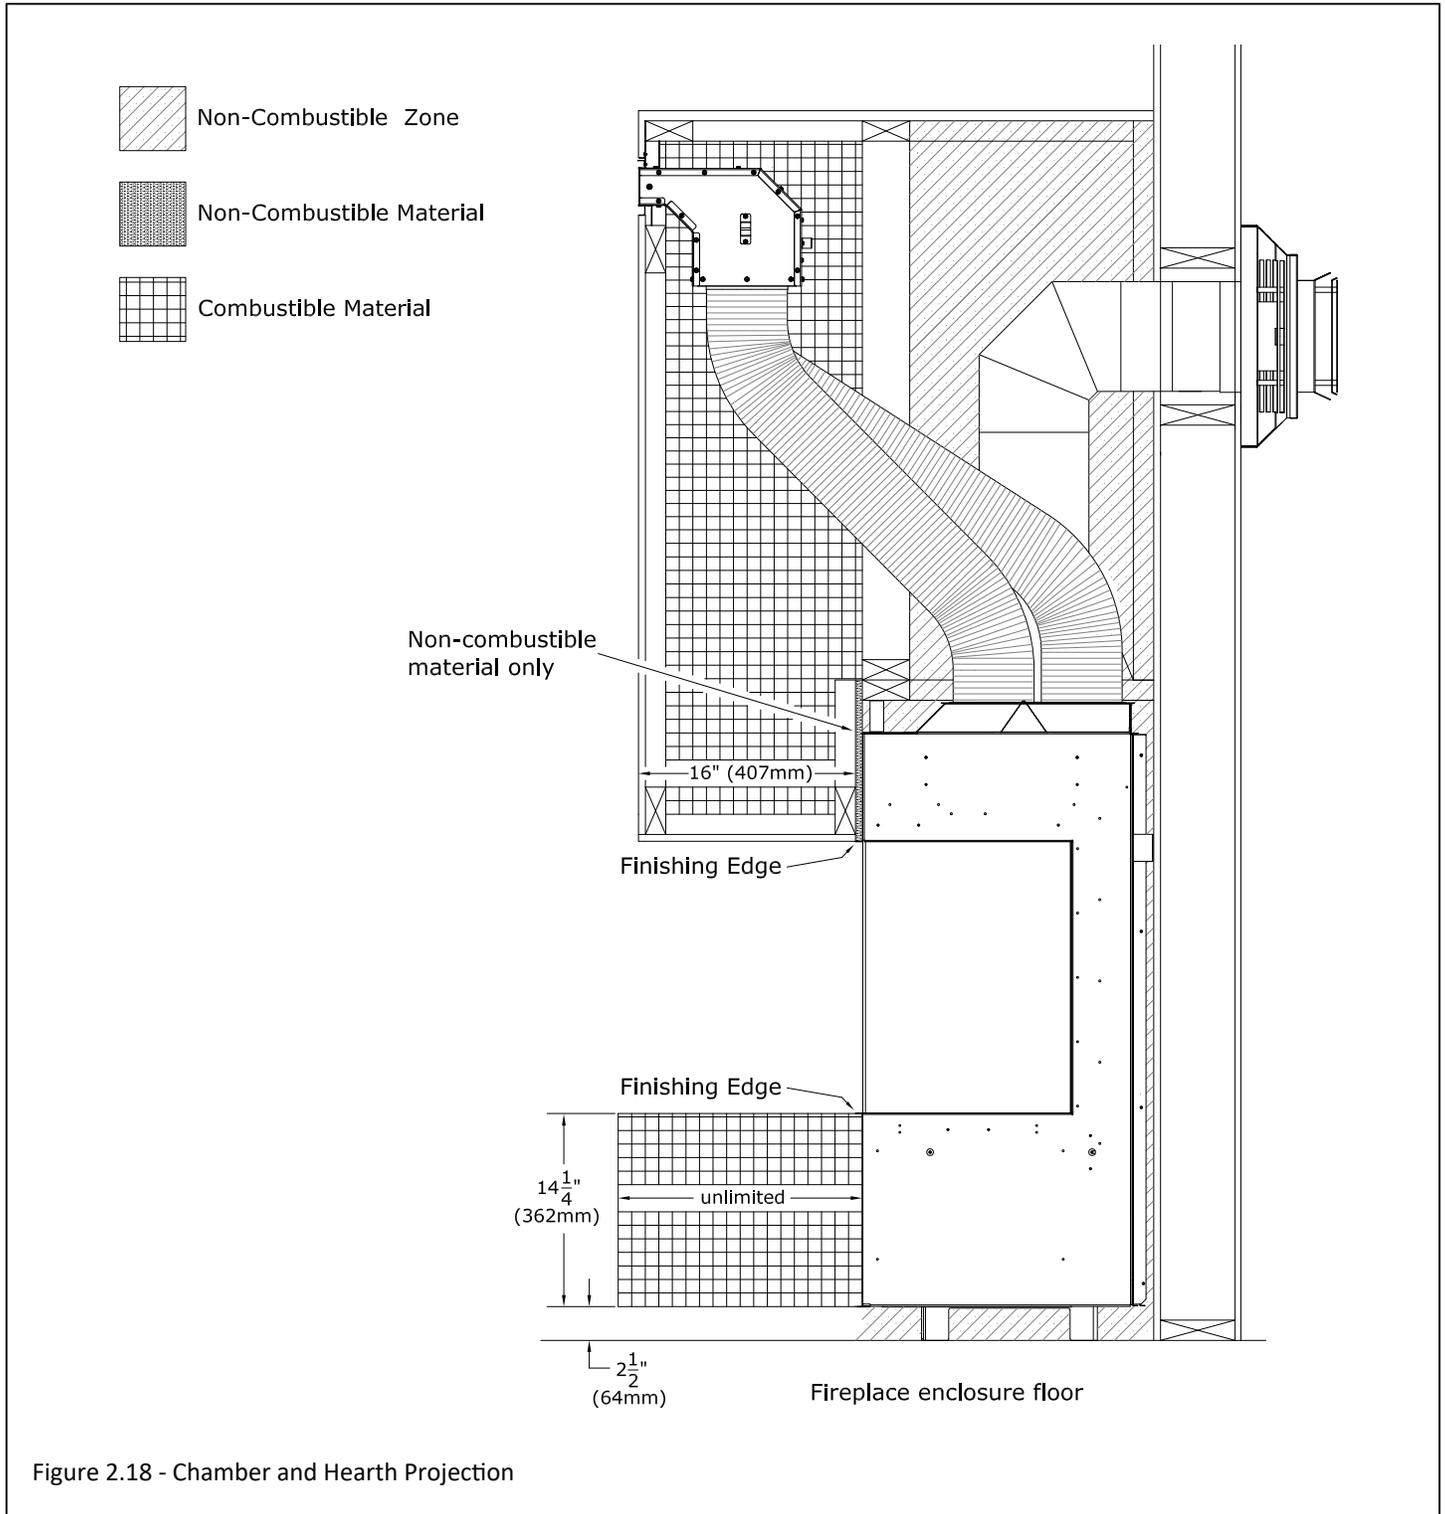

Figure 2.18 - Chamber and Hearth Projection
- **Combustible Chamber Projections:** A maximum of a 16" (406mm) chamber projection can be installed flush at the side and top finishing edge of the fireplace. See Figure 2.18.
Figure 2.18 shows the KZK installed in a 16" front chamber projection. The 16" non-combustible projection would also apply to any side chamber projection.